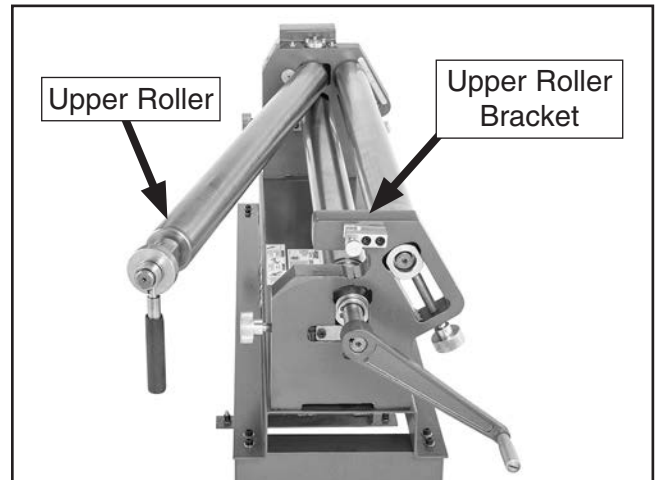

Figure 29. Upper roller released (workpiece already removed from roller for photo clarity).
- Slide upper roller out from upper roller bracket (see **Figure 29**), remove workpiece from upper roller, then slide upper roller back into bracket.